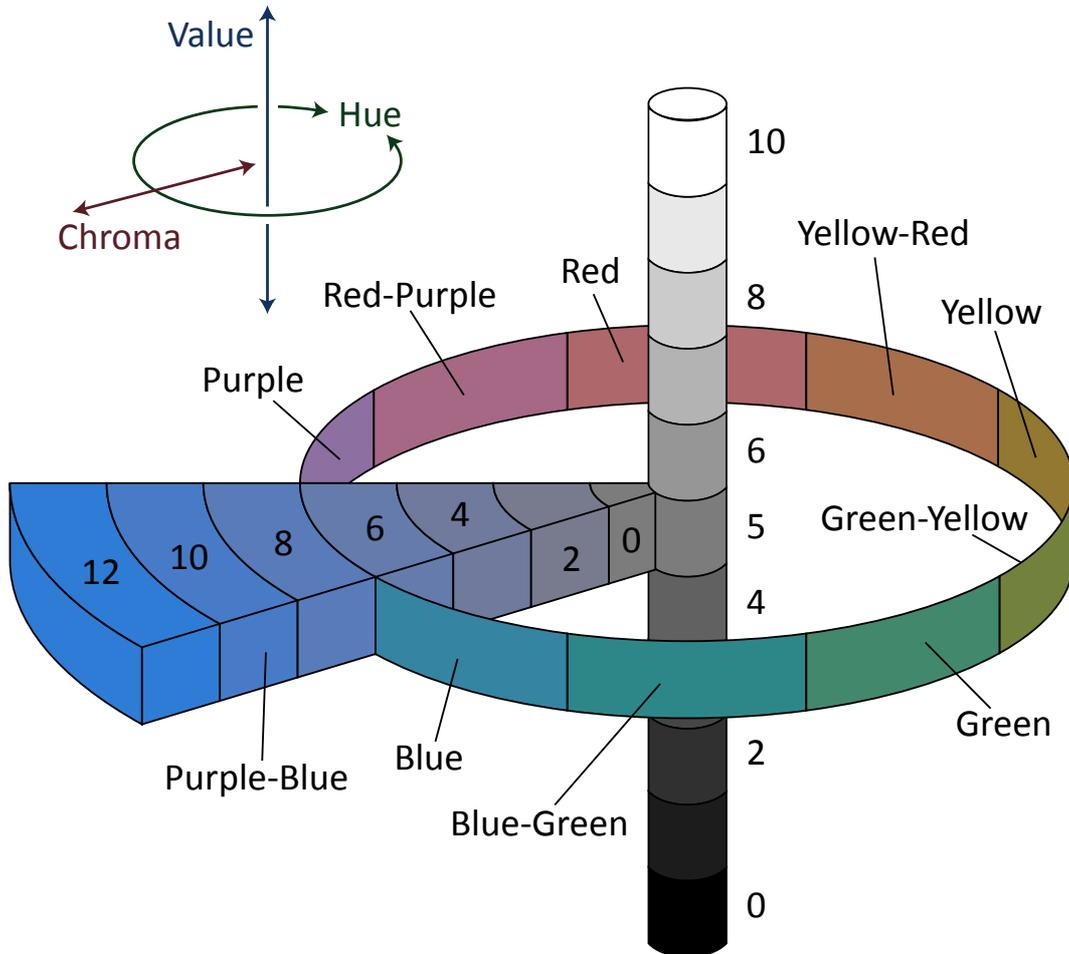

Figure 9-1. The Munsell Colour System.
way of expressing colors numerically in the same way that length or weight might be expressed. For example, in 1905 the American artist A. H. Munsell devised a method for expressing colors which utilised a great number of paper color chips classified according to their hue (Munsell Hue), lightness (Munsell Value), and saturation (Munsell Chroma) for visual comparison with a specimen color. Later, after a variety of further experiments, this system was updated to create the Munsell Renotation System, which is the Munsell system presently in use (see Figure 9-1). In this system, any given color is expressed as a letter/number combination (H V/C) in terms of its hue (H), value (V), and chroma (C) as visually evaluated using the Munsell Colour Charts.